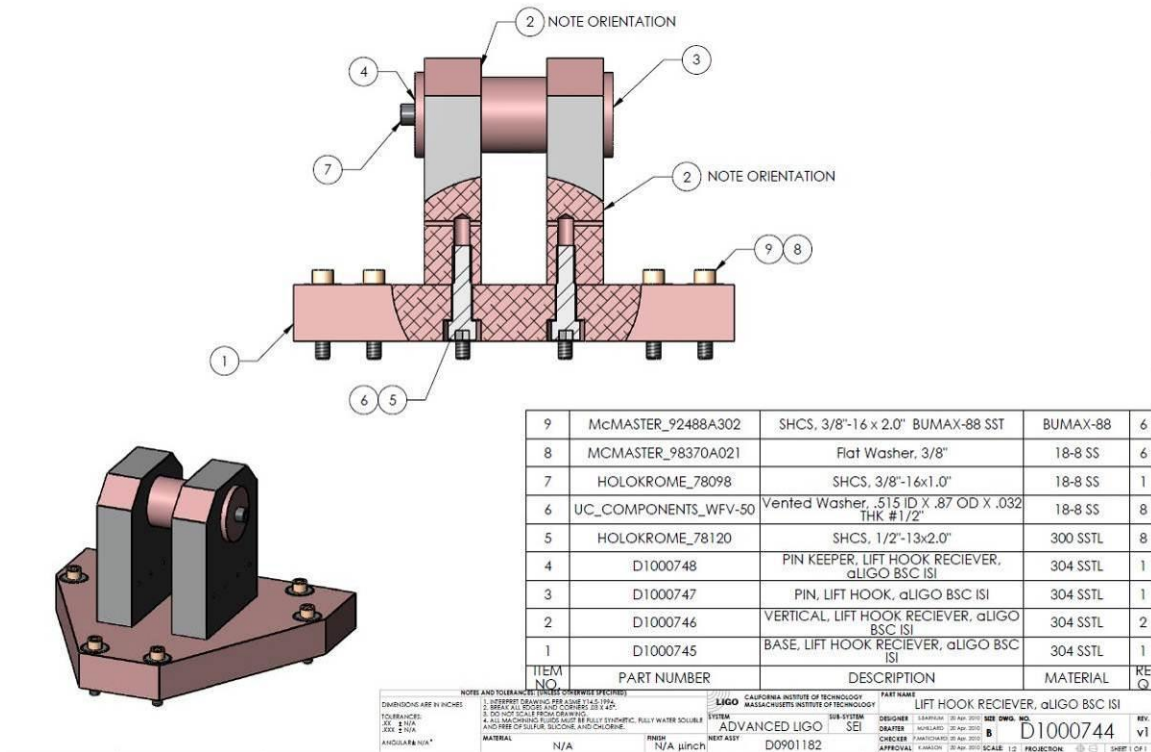

Figure 167: D1000744 Lift Hook Receiver Assembly Drawing
1.93. Attach (2) D1000746 Lift Hooks Vertical onto the base D1000745 Lift Hook Base (see Figure 167)
1.94. Slide D1000747 Lift Hook Pin through (2) D1000746 Lift Hooks Vertical and into D1000748 Lift Hook Pin Keeper (see Figure 167)